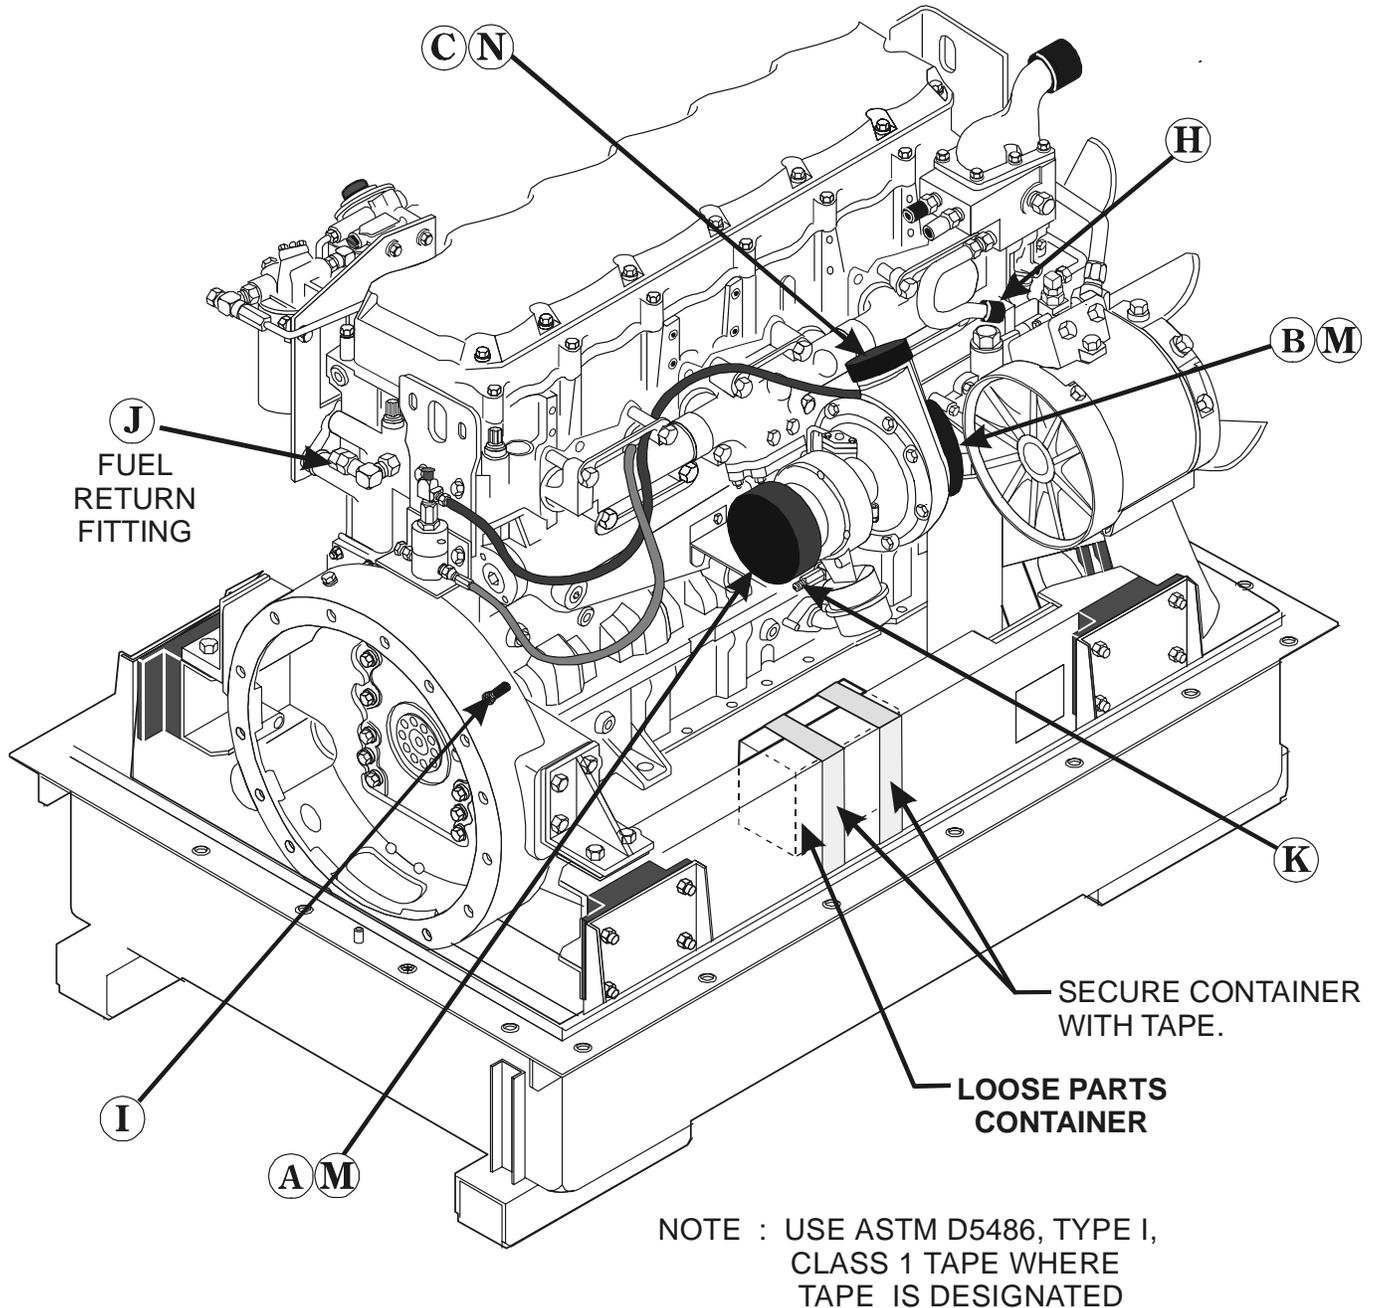

FIGURE 3
- INSTALL COVER "H" AS SPECIFIED IN CHART ON PAGE 2 AND AS SHOWN IN FIGURE 3 ON PAGE 5.
2. INSTALL THE CATERPILLAR COVERS "A", "B", "C", AND "D" ON TURBOCHARGER AND INTAKE ELBOW AS SPECIFIED IN CHART ON PAGE 2 AND AS SHOWN IN FIGURE 1 ON PAGE 4 AND FIGURE 3 ON PAGE 5. SECURE COVERS "A", "B", "C" AND "D" USING CLAMPS "M", AND "N" TO FORM AN AIR TIGHT SEAL AS SPECIFIED IN CHART ON PAGE 2 AND AS SHOWN IN FIGURE 1 ON PAGE 4 AND FIGURE 3 ON PAGE 5.
- INSTALL CAP "K" ON TURBOCHARGER FITTING AS SPECIFIED IN CHART ON PAGE 2 AND AS SHOWN IN FIGURE 3 ON PAGE 5.
- INSTALL CAP "J" (2 EACH) ON FITTINGS AS SPECIFIED IN CHART ON PAGE 2 AND AS SHOWN IN AS SHOWN IN FIGURE 1 ON PAGE 4 AND FIGURE 3 ON PAGE 5.
STEP 2: REMOVE CAP "J" FROM FUEL RETURN FITTING SHOWN IN FIGURE 3 ON PAGE 5. A TRANSPARENT LINE SHALL BE CONNECTED TO THE FUEL RETURN PORT USING APPROPRIATE FITTINGS. THE OTHER END OF THE TRANSPARENT LINE SHALL BE INSERTED INTO A RECOVERY CONTAINER TO COLLECT THE FUEL/PRESERVATIVE. CONNECT AN ELECTRIC OR PNEUMATIC PUMP WITH A CAPACITY OF NO MORE THAN 45 GPH, AND WITH A MINIMUM OF 10 PSI NOT TO EXCEED 25 PSI TO THE FUEL INTAKE LINE USING LINES AND FITTINGS. COMPLETELY PURGE FUEL SYSTEM WITH PRESERVATIVE CONFORMING TO MIL-PRF-21260, GRADE 10 OR MIL-PRF-2104 GRADE 10. THE SYSTEM SHOULD BE PURGED UNTIL CLEAN PRESERVATIVE IS OBSERVED FLOWING THROUGH CLEAR RETURN LINE.
- f. PLACE CONTAINER INSIDE OF FRAME RAIL AND SECURE WITH ASTM D5486, TYPE I, CLASS 1 TAPE AS SHOWN IN FIGURE 3 ON PAGE 5.